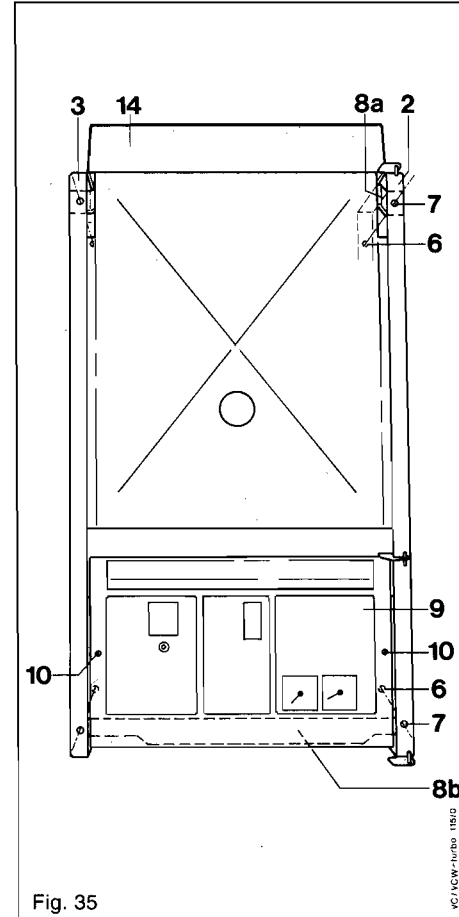

Fig. 35
12.2 Side panels (Fig. 35)
13.3 Removing outer case (Fig. 35)
Remove screen plate by unscrewing the two fixing screws (10, Fig. 35).
Lift off flue hood cover (14, Fig. 35).
Remove side panels by unscrewing top and bottom screws (7, Fig. 35) to clear internal clips and then pulling panels outwards and off.